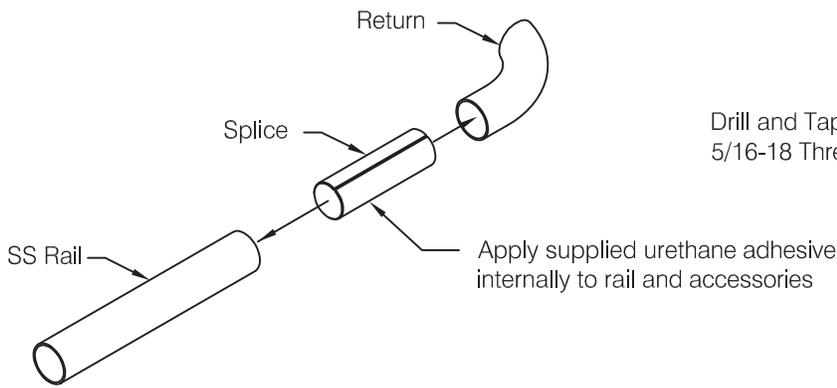

fig 2
- Step 3:** Attach wall returns and one side of corners to rail by applying a layer of two-part urethane adhesive (included) to the inside of handrail and accessory tubing, see **fig 2**. Follow mixing and curing instructions on the adhesive packaging for proper use. Install the internal compression splice into the accessory first, and then install the splice/accessory combination into the rail.